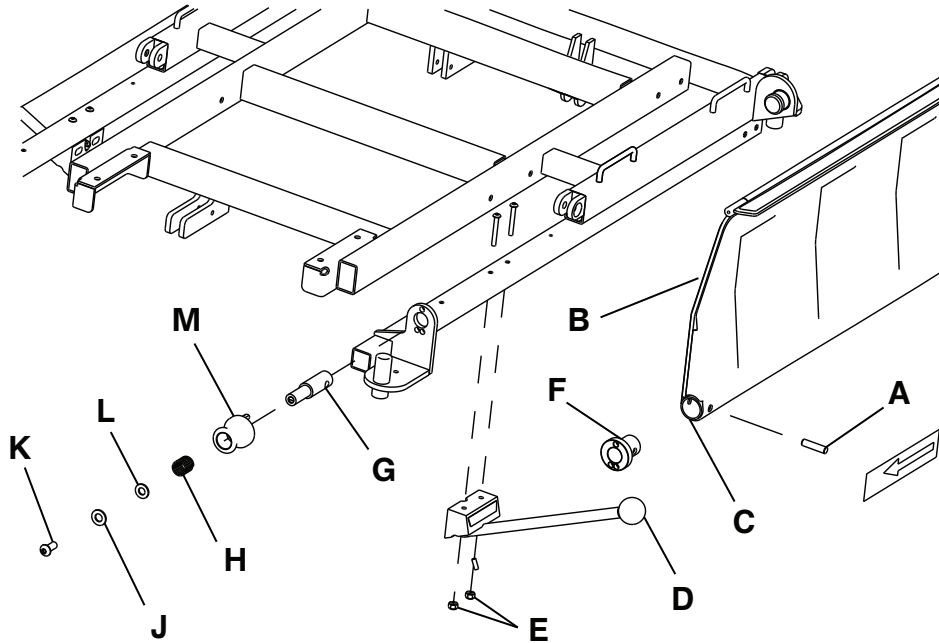

Figure 10 – Siderail adjustment
1. Using a 3/16" hex wrench, remove the button head cap screw (K), washers (J and L), and spring (H) in the end of the red release knob (M) (Figure 10).